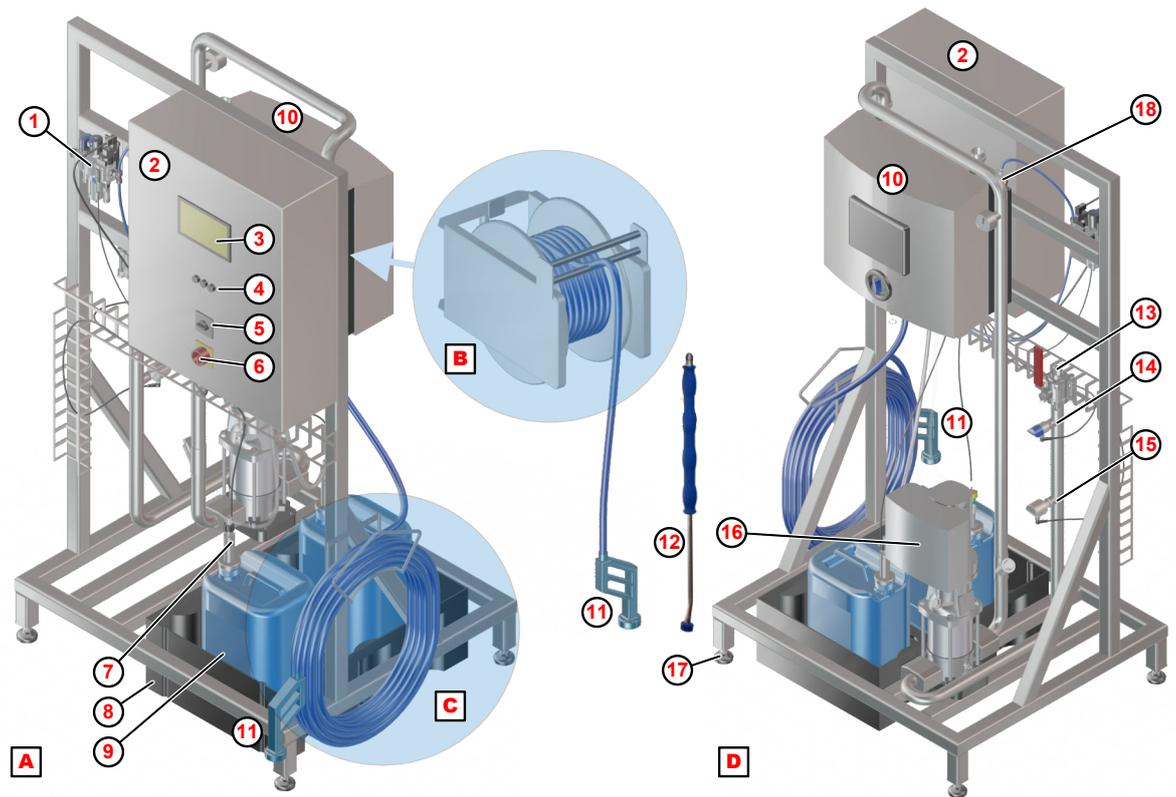

Fig. 2: BFH Foamatic Overview
BFH Foamatic Through the mixing of the water, chemicals for foam cleaning and compressed air, creates a foam cleaning solution. For this purpose, the pressure booster pump mounted on the frame Fig. 2, (16) generates pressure-increased water. In the Hybrid Foamatic satellite (10), this water is then mixed in injector blocks with chemicals for foam cleaning and foamed with compressed air in the air injection valve.
The water unit consists of a flow sensor, Fig. 2 , ⑮ , a membrane pressure switch ⑭ and a pressure booster pump ⑯ with frequency converter.
Via the Hybrid Foamatic satellite, Fig. 2 , ⑩ the cleaning solution is mixed by means of injector technology with chemicals for foam cleaning and foamed by compressed air. The compressed air is adjusted via a pressure reducer with pressure indicator.
The suction lances, Fig. 2 , ⑦ feed the chemicals for foam cleaning to the injector blocks via flexible PVC hoses. The suction lances are equipped with a non-return valve and a pre-empty and empty signal.
The control cabinet, Fig. 2 , ② in addition to the main switch, ⑥ also features the controls with operating display ③ and control buttons ④ . Optionally, you can have a pneumatic valve block installed in the control cabinet to control the external valves of the nozzle system.
The manual lance, Fig. 2 ⑫ with a 25 m long hose, is used for manual cleaning. The manual lance consists of the spray gun ⑪ , the manual lance ⑫ and the attachments tornado nozzle, disinfection nozzle and foam nozzle. Optionally you can have an automatic hose reel  installed.